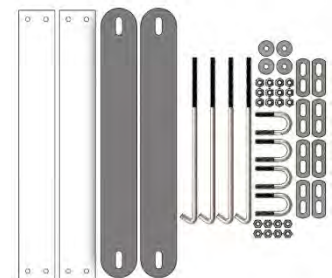

Figure 7. Battery Hold Down Kit
2. Minimizer offers a battery hold down kit (Part # 105243) for this application (Figure 7) to be purchased separately.
1. Battery hold down kit 105243 (shown in Figure 7) is designed for use with Group 30 or Group 31 batteries.